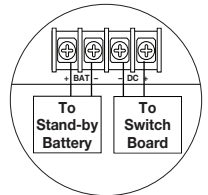

Fig. 2
1. **Battery Backup** (if desired): Connect one (1) 12V LiFePO₄ (Lithium Iron Phosphate) battery to terminals marked [+ BAT -] (*Fig. 2*, pg. 4), carefully observing polarity.